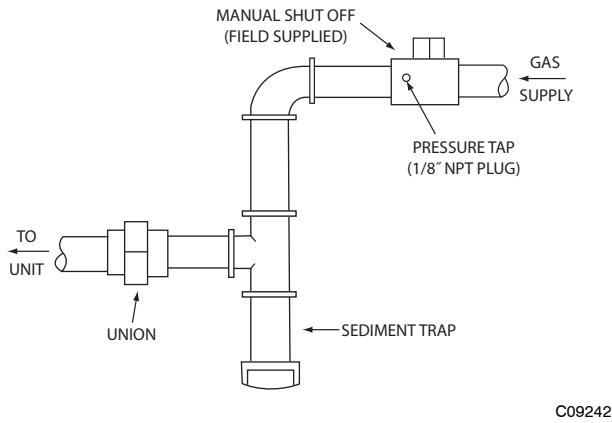

Fig. 5 - Field Gas Piping
2. Connect pressure gauge to supply gas tap, located on field-supplied manual shutoff valve. (See Fig. 5.)